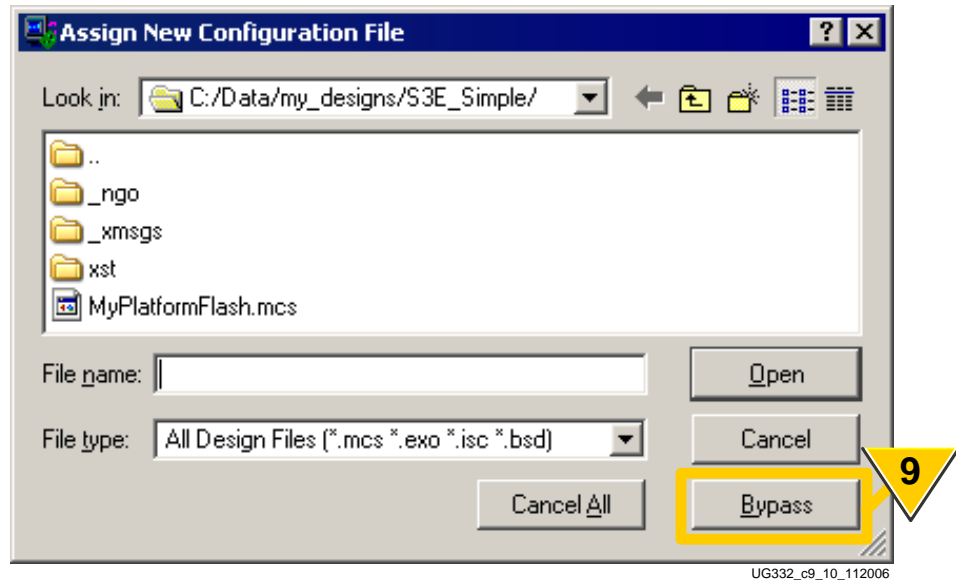

Figure 9-12: Click Bypass to Skip Platform Flash Programming
9. For faster downloading and a shorter FPGA debugging cycle, there is no need to program the Platform Flash PROM or CPLD unless actually desired. To skip programming the Platform Flash PROM, click Bypass, as shown in Figure 9-12.